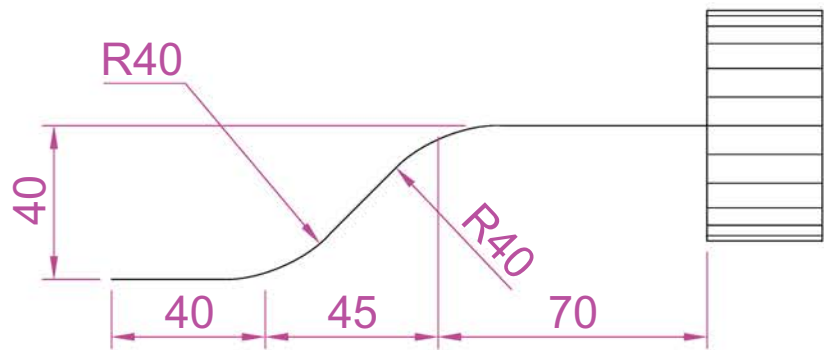

Fig. 19.2 First example – Extrude Faces tool – first stages
2. In the **Right UCS**, construct a cylinder of radius 30 and height 30 (Fig. 19.2).
3. In **Front UCS**, construct the pline (Fig. 19.2). **Mirror** the pline to create a copy at the other end of the cylinder.